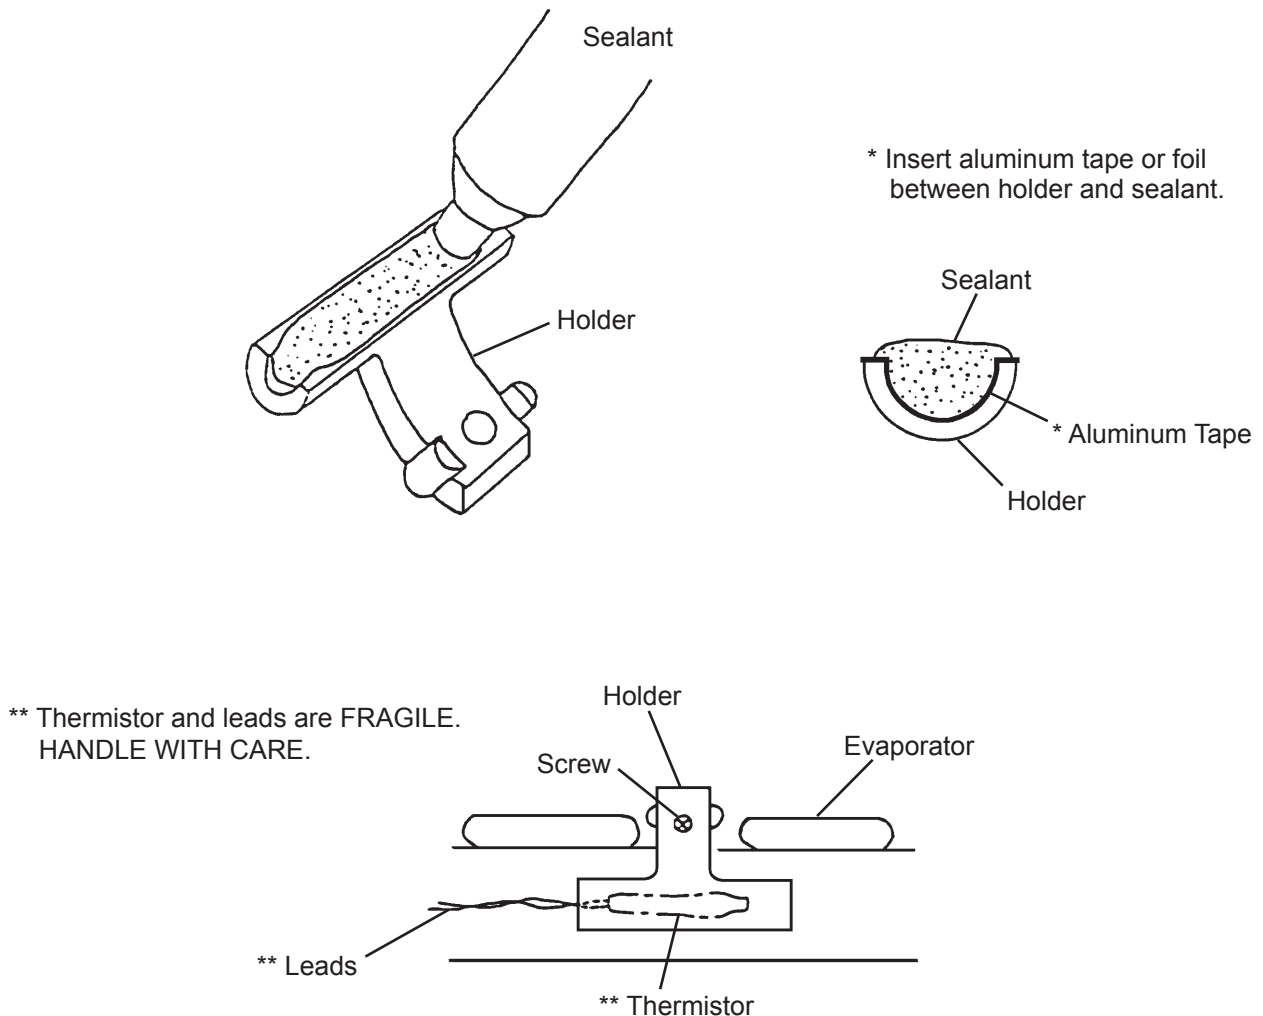

Fig. 14
- 5) Install the new thermistor in the reverse order of the removal procedure, by using a sealant (high-thermal conduct type). See Fig. 14.